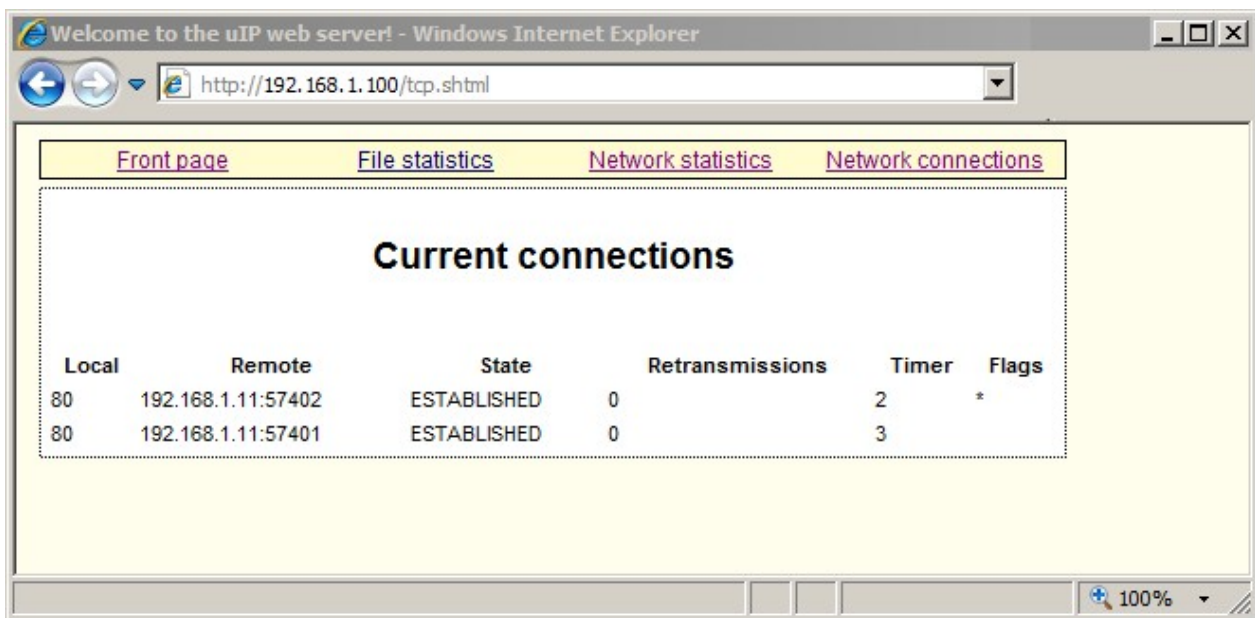

Figure 2.1: Web interface for the emacs_uip application
The Lincoln 60E SBC is shipped with the `emac_uip` example application that demonstrates a web-based interface using the Ethernet controller and the uIP TCP/IP Stack. DHCP is used to obtain an Ethernet address. Figure 2.1 shows the web page that will first be displayed.
- 8. Type the IP address into the web browsers address bar and the web page in Figure 2.1 should load.
- 11. Type the IP address into the web browsers address bar and the web page in Figure 2.1 should load.